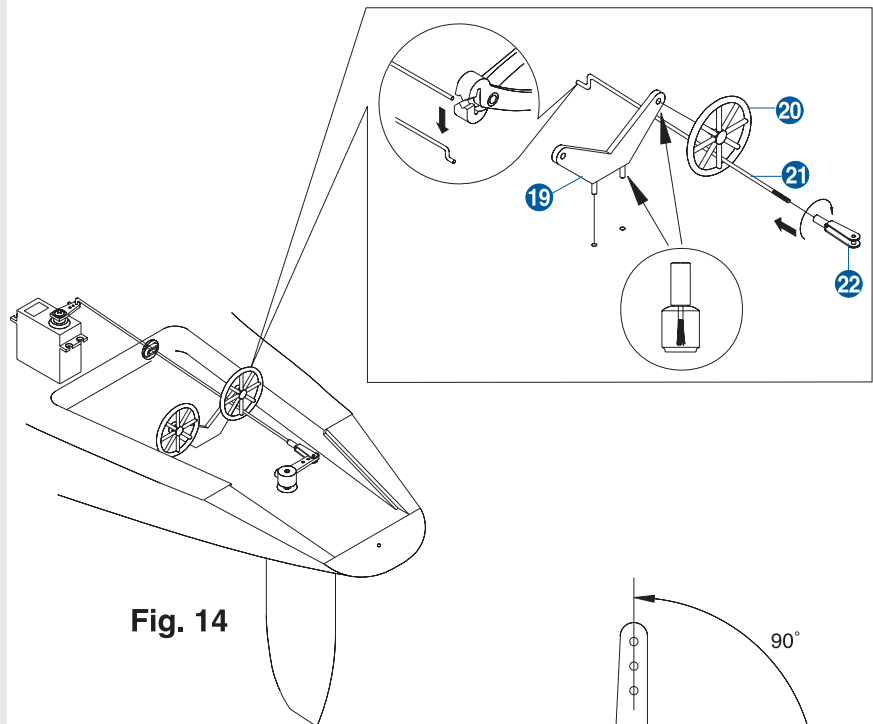

Fig. 14
6. Secure the steering wheel mount to the hull using ABS glue as shown in Fig. 14. Attach the steering wheels to the mount using ABS glue.
7. Make a Z-bend on the plain (unthreaded) end of the pushrod using pliers as shown in Fig. 14. Pass the pushrod through the steering wheel and pushrod exit bushing then thread a metal clevis on the pushrod as shown. Attach the pushrod to the servo arm, and then attach the clevis to the rudder steering arm. Adjust the clevis so that the servo arm and rudder steering arm are at ninety-degree angles to the pushrod, as shown in Fig. 15.